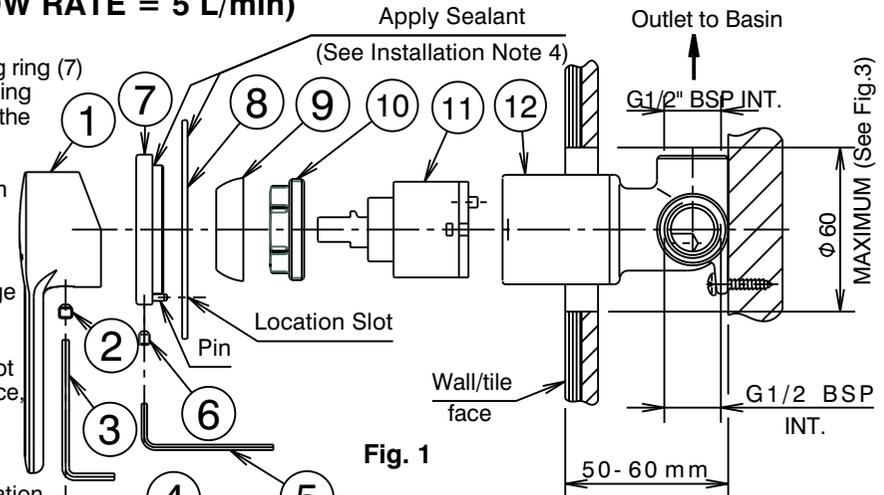

Fig. 1
- 3) Apply a suitable clear sealant to the back face of the cover plate (8), leaving an unsealed section at the bottom for drainage. Apply a suitable clear sealant in the corner around the location diameter of the retaining ring (7) to prevent water entering the wall cavity (See Fig 1).
- 4) Carefully fit the cover plate (8) followed by the retaining ring (7) onto the mixer body (12), ensuring the pin in the retaining ring is engaged in the location slot (with the screws at the bottom). Push the retaining ring and cover plate firmly against the wall/tile face and tighten screws (6) using 2mm allen key (5). Wipe clean any excess sealant from the chrome surfaces & the wall/tile face. (See Fig.1)
- 5) Fit handle (1) as shown, taking care that it is pushed fully down, then tighten grub screw (2) using 2.5mm allen key (3). Insert plug (4) taking care not to damage the decorative finish.
### Replacing Cartridge (Fig. 1)